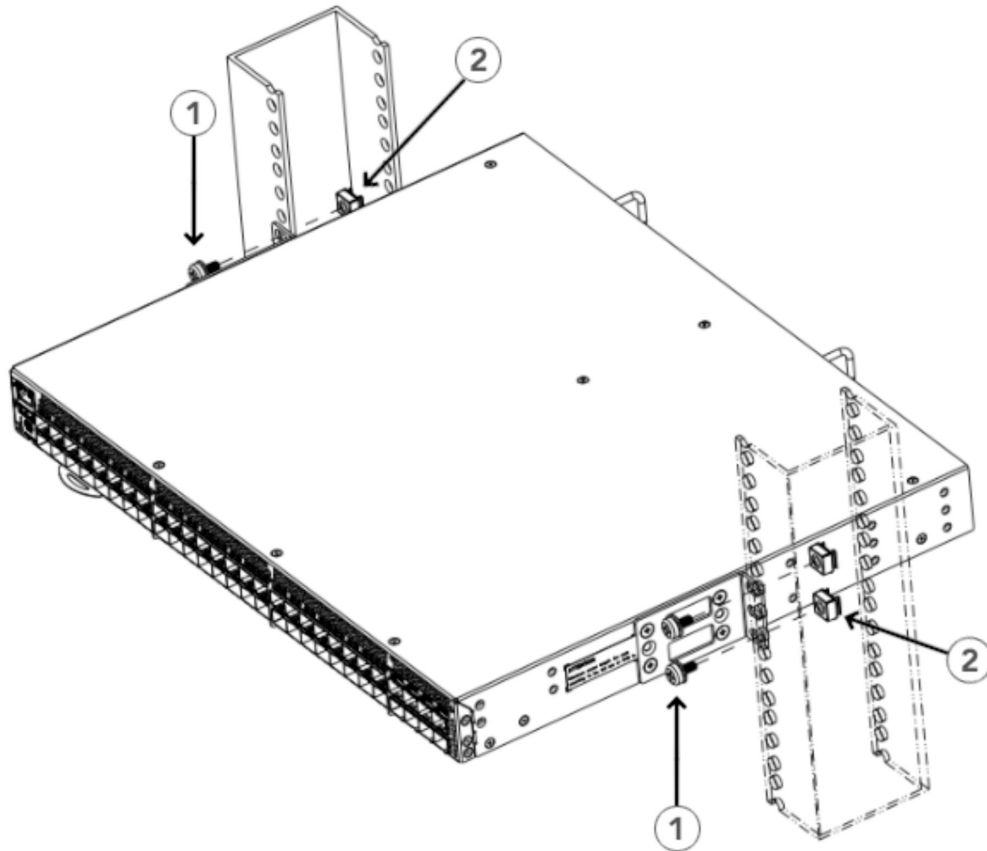

Figure 21. Attaching the Front Brackets to the Rack
1. Position the device in the rack, as shown in Figure 21, providing temporary support under the device until the rack kit is fully secured to the rack.